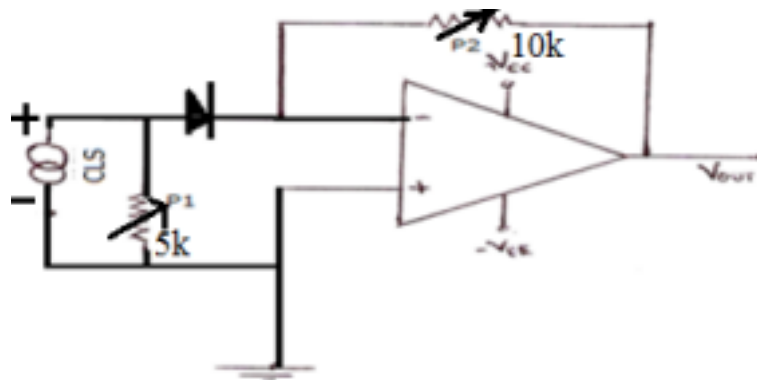

Fig. 1 Connection diagram
1. Rig up the circuit as shown in the Fig.1